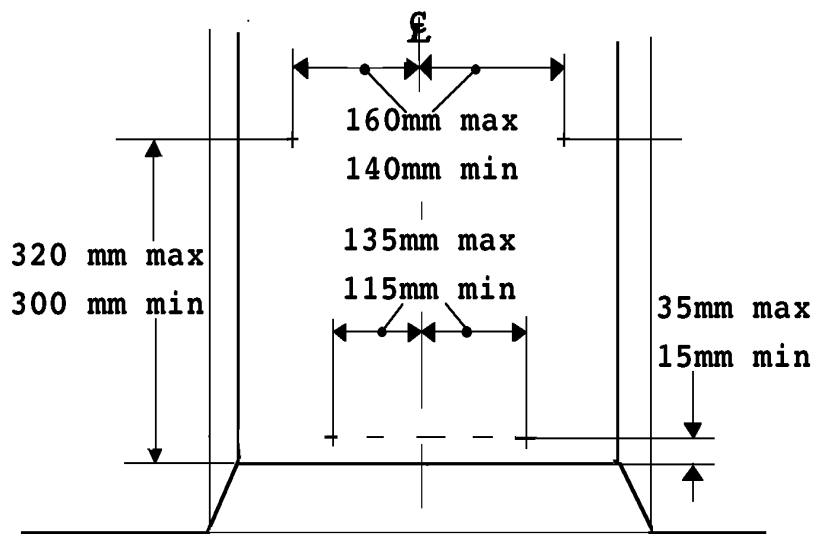

Figure 15. Eyebolt positions
1. Drill four holes in the rear wall of the fireplace for the eyebolt plugs. The holes should be drilled within the range of positions shown in figure 15 using a no.12 masonry drill. The holes should be equidistant each side of the centre line of the fireplace to ensure that the appliance finishes centrally in the opening when tension is applied to the cables.